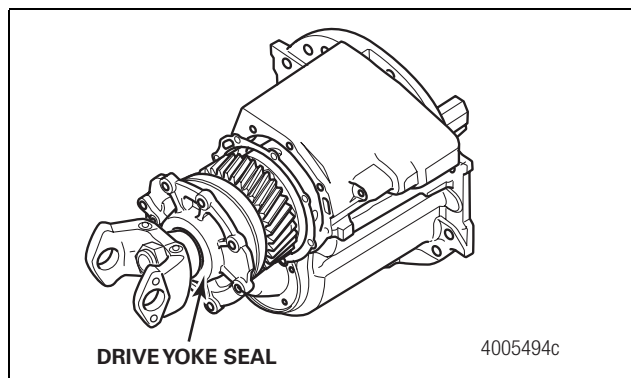

Figure 1
4. Inspect for evidence of a drive yoke seal leak before removing the input bearing cage. Figure 1. Lube from input seal leaks is most often seen on the input bearing cage in the area below the seal. Clean and inspect the joint for leakage at the input cage.